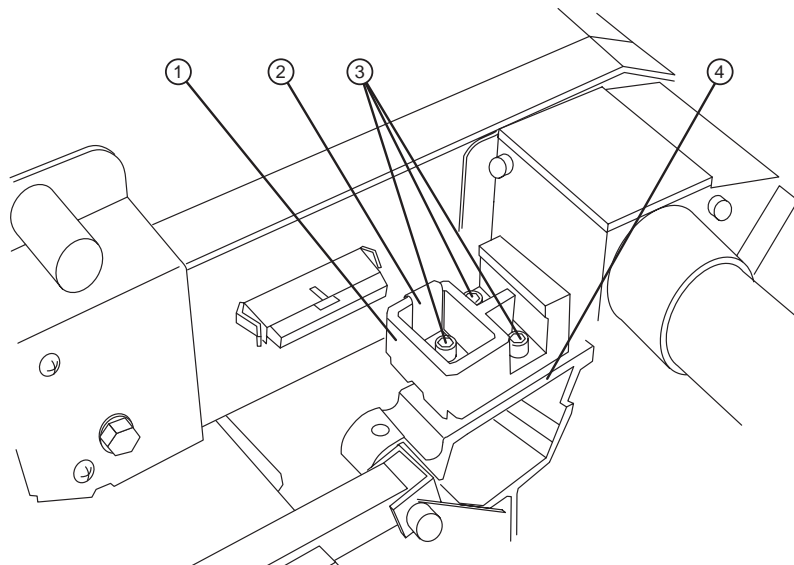

Figure 1-11 Securing the bearing blocks.
6. Hand tighten the three (3) allen cap screws, in the bearing blocks, left and right (see Figure 1-11).
①—Guide block (one of two).
5. Also make certain that the bridge bearing blocks (top left and right) are straight. If they are, secure to the lower casting by tightening the three (3) allen screws. Refer to Figure 1-11.